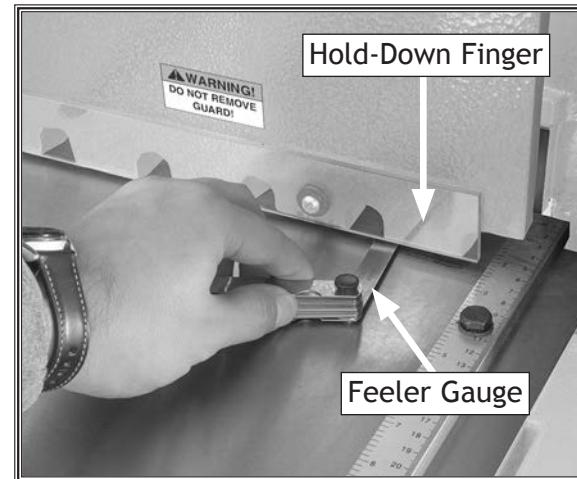

Figure 34. Using feeler gauge to check blade guard clearance.
2. Insert largest feeler gauge that will fit between hold-down finger and table on right end of blade guard (see Figure 34).